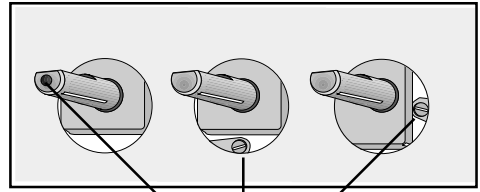

Fig. 9
- in case of conversion from natural gas to U-LPG, tightly screw the by-pass screw (Fig.9);